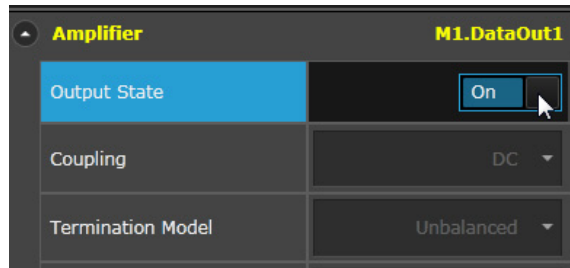

Figure 44 Enable pattern generator output
- 10 Enable the output of the pattern generator by clicking on the **Output State** slider as shown in Figure 44 on page -87.